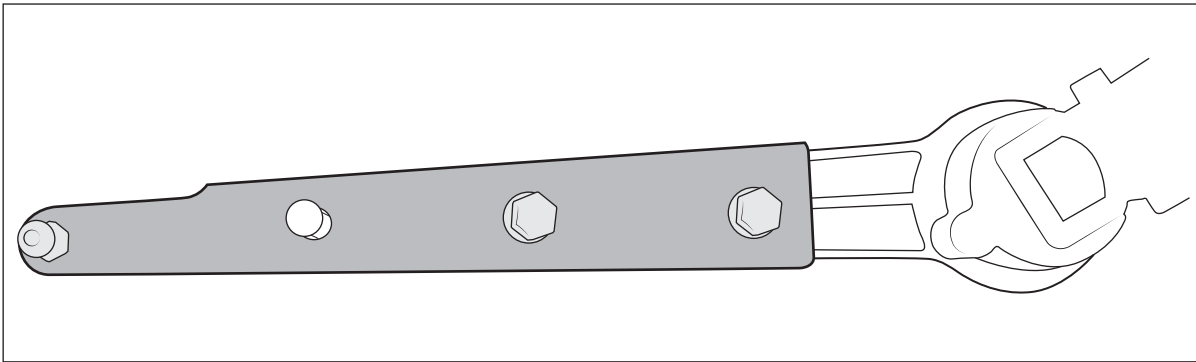

Figure 17
10. AIR RIDE ONLY — Install arm extensions (fig. 17)